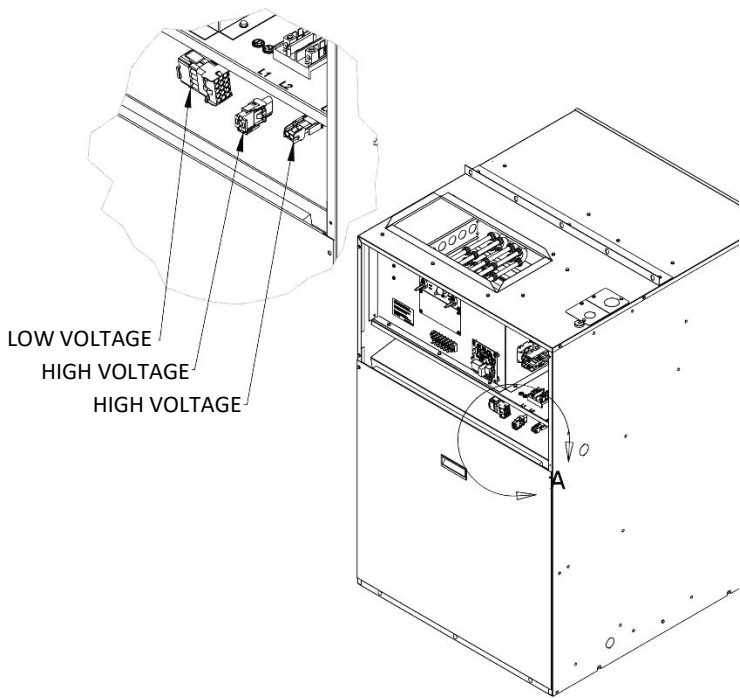

FIGURE 32 – Electrical Power Disconnection
- 3) Disconnect the low voltage connector and the two (2) high voltage connectors by pressing on the release tabs. Refer to **FIGURE 32- Electrical Power Disconnection**.